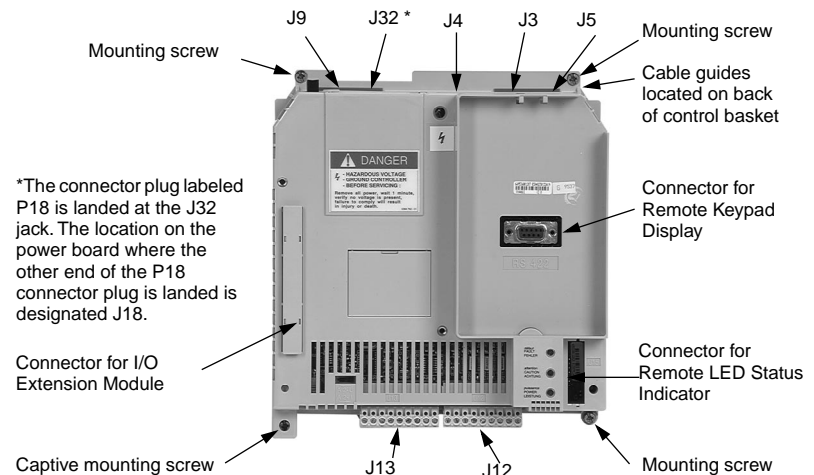

Figure 4.1.5: Control Basket Connector Locations
Figure 4.1.5 on page 4.1.10). The P18 connector plug is landed at the J32 jack on the control basket and at the J18 jack on the power board.
4. Using a flat blade screwdriver, carefully loosen and disconnect the J12 and J13 connectors located at the bottom of the control basket (see Figure 4.1.5). Do not remove the field wiring from the connectors.
11. Place the control basket in the drive controller. Using a torque wrench and either Phillips screwdriver socket or a hex key attachment, tighten the one captive screw, and install and tighten the three other corner screws (see Figure 4.1.5 on page 4.1.10). Tighten the four corner screws to a torque of 8.9 lb-in (1.0 N•m).
13. Snap the two connectors J12 and J13 into place (see Figure 4.1.5).